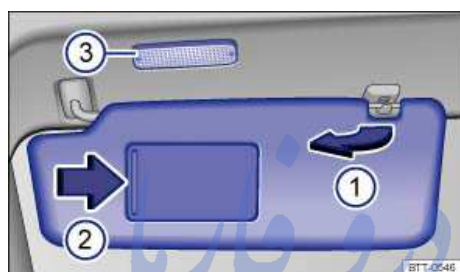

Fig. 76 In the headliner: Sun visor.
- Lift it out of the retaining clip => fig. 76 (1) and swivel it over toward the door.